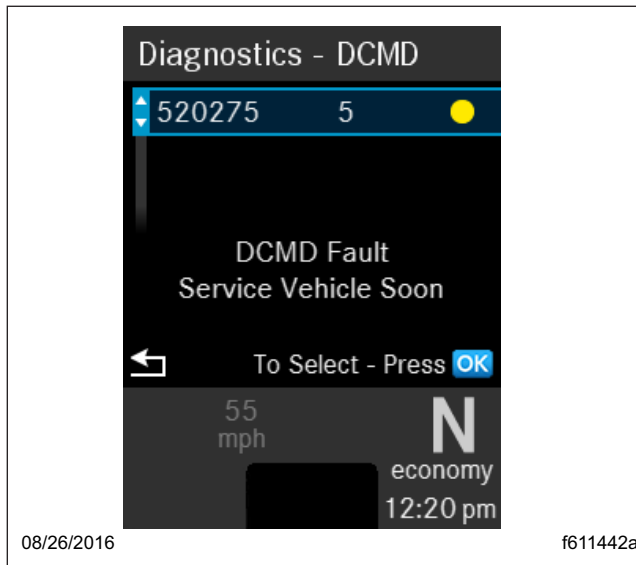

Fig. 9.3, Information Screen for an Active Fault Code
3. Locate the code to troubleshoot from the list of active fault codes, then press OK to access the information screen. See Fig. 9.3.